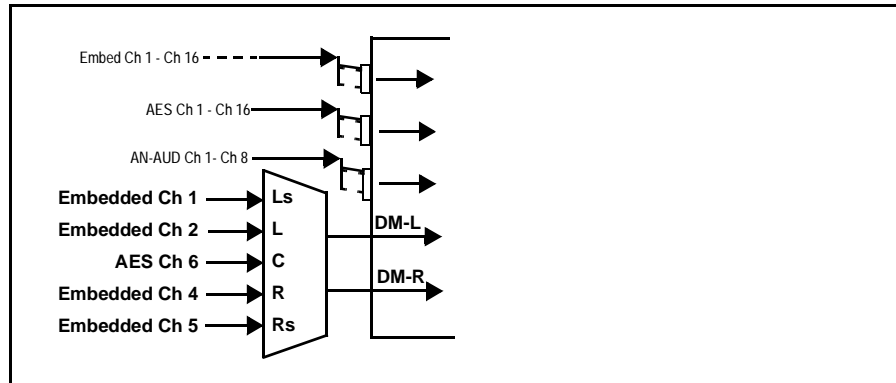

Figure 1-5 Audio Mixing Functional Block Diagram with Example Sources
(See Figure 1-5.) The Audio Down Mixer function provides for the selection of any five embedded, AES discrete, or analog audio sources serving as Left (L), Right (R), Center (C), Left Surround (Ls), and Right Surround (Rs) individual signals to be multiplexed into a stereo pair (Down Mix Left (DM-L) and Down Mix Right (DM-R)). The resulting stereo pair DM-L and DM-R can in turn be routed and processed just like any of the other audio sources described earlier.